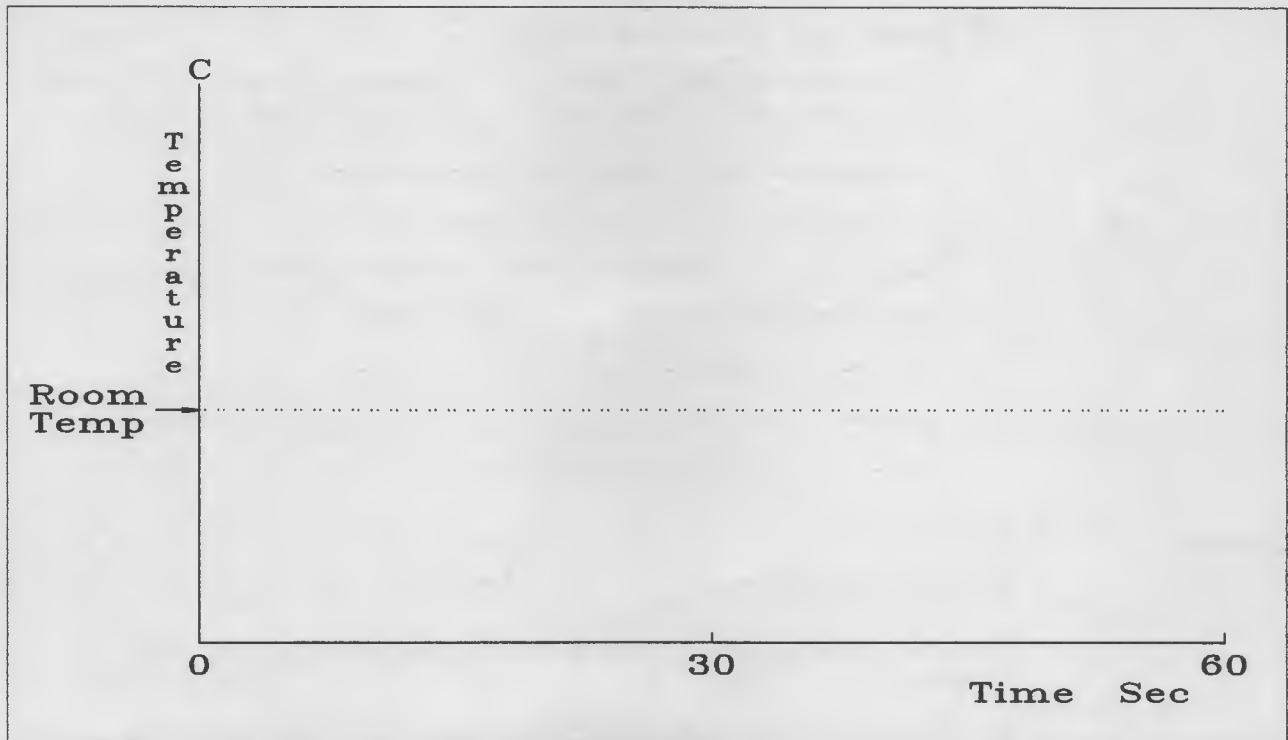

Figure 10. Aluminum Foil's Cooling Curve
- 24 Record your results in Figure 10 on page 63. Sketch the graph seen on the computer on the axes in the figure. This sketch should be an idealized version of the graph seen on the screen, by using **Graph** mode. which means you can smooth out any tiny bumps seen on the screen.